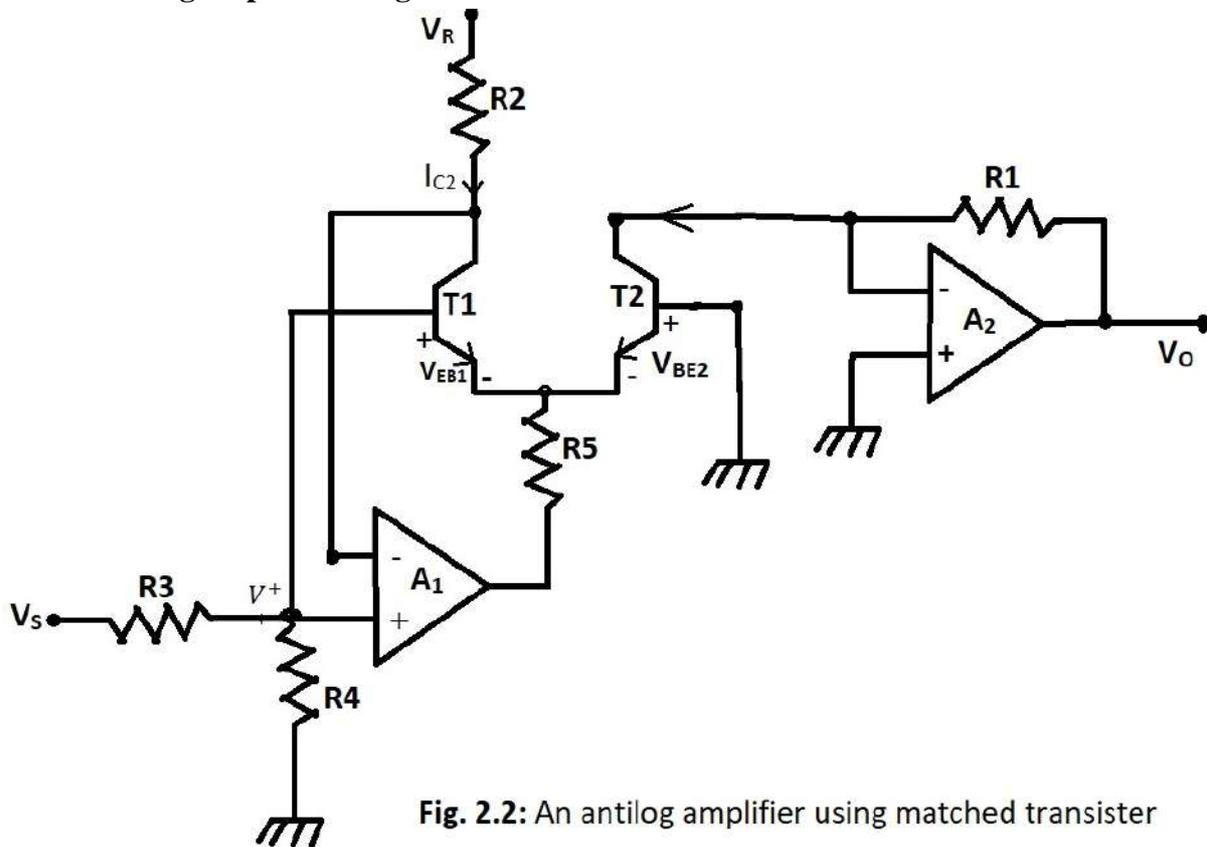

Fig. 2.2: An antilog amplifier using matched transistor
The figure of anti-logarithm amplifier is shown in Fig. 2.2. Two matched transistors is used here as shown in figure, where input is given to the non-inverting amplifier pin of first op-amp A1
Now from Fig. 2.2 we get
Now from Fig. 2.2 we can write
5. Also for using matched transistor construct the circuit of Fig. 2.2 preferably on a bread board. And repeat the 2,3 and 4 process.